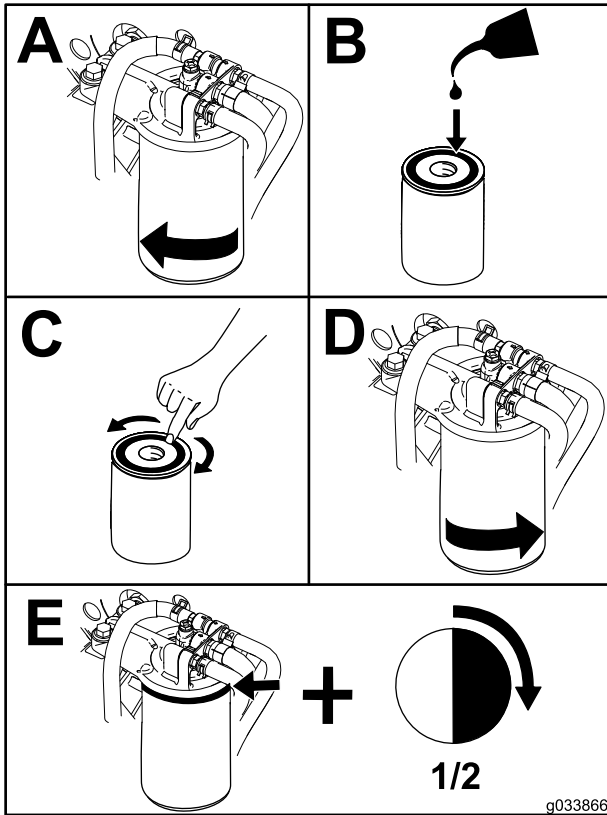

Figure 63
1. Clean the area around the filter head (Figure 63).